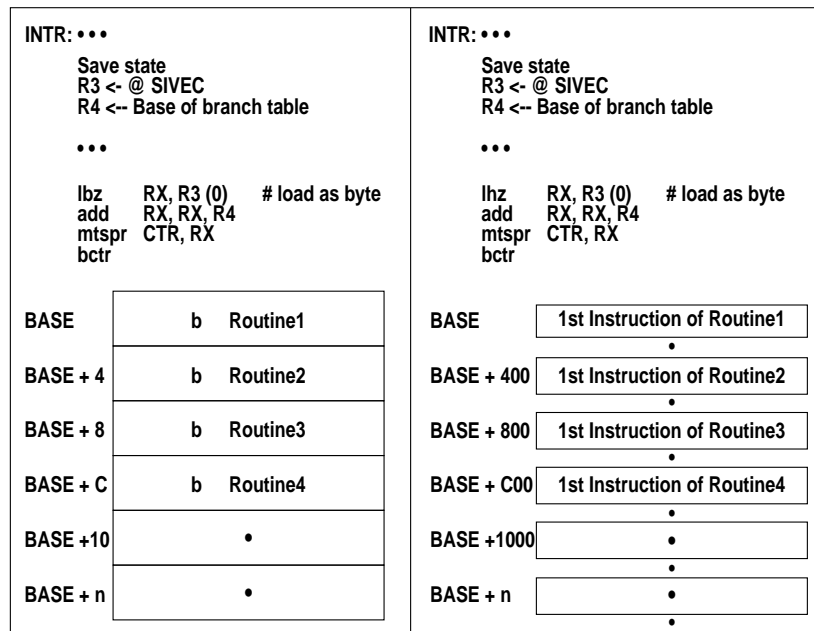

Figure 12-3. Interrupt Table Handling Example
**12.3.3.4 SIU INTERRUPT VECTOR REGISTER.** The 32-bit read-only SIU interrupt vector (SIVVEC) register contains an 8-bit code that represents the unmasked interrupt source of the highest priority level. The SIVVEC register can be read as either a byte, half, or word. When read as a byte, a branch table can be used in which each entry contains one instruction (branch). When read as a half-word, each entry can contain a full routine of 256 instructions (max). The interrupt code is equal to the interrupt number multiplied by four, which allows indexing into the table. Refer to Figure 12-3 and Table 12-1 for details.